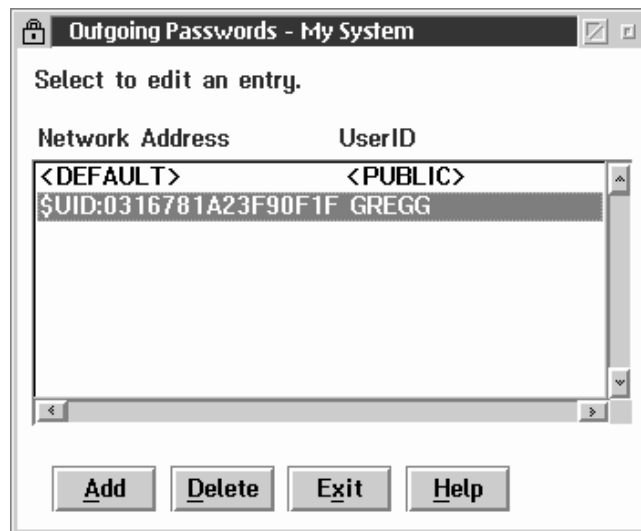

Figure 81. The Outgoing Password window.
2. Select **Edit/Display Outgoing Passwords**. This opens the Outgoing Password window (see Figure 81).